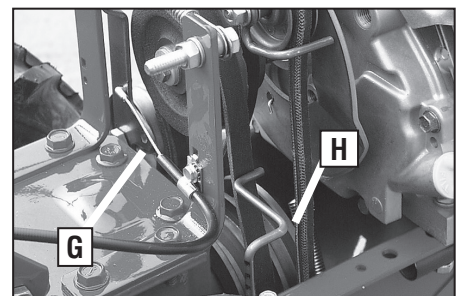

Figure 5-21: Correct forward clutch cable positioning.
**NOTE:** Be sure to run the reverse clutch cable on the pulley side of the cover support brackets (G, Figure 5-21).
**IMPORTANT:** Belt must be installed on the inside of the belt guide (H, Figure 5-21).